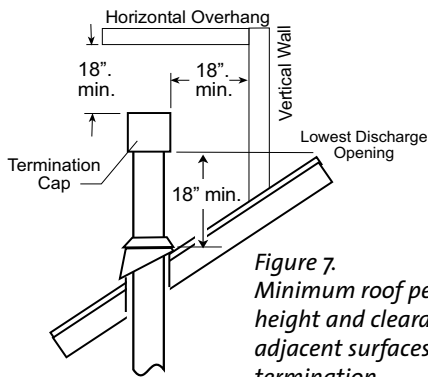

Figure 7.
- **GAS VENT HEIGHT:** In no case shall any discharge opening on the cap be less than 18" (457 mm) horizontally from the roof surface. See fig. 7.